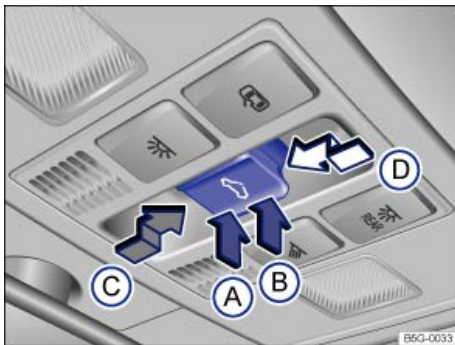

Fig. 33 In the headliner: Power sunroof switch.
The  switch ⇒ fig. 33 has 2 detents for each switch position ((A), (B), (C), and (D)), which are described in the following table.
- Press the  button ⇒ fig. 33 within about 5 seconds after the sunroof has stopped and hold it in the direction of the arrow (D) at the second detent until the power sunroof closes completely.